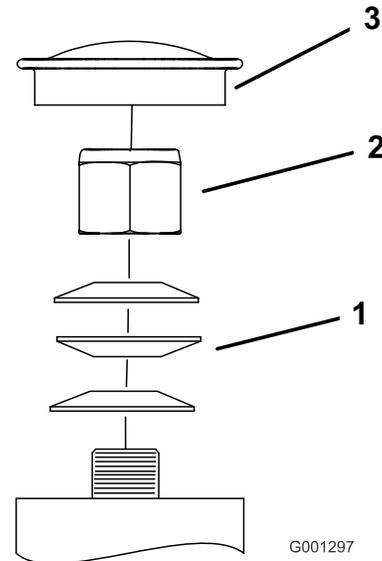

Figure 62
3. Remove the dust cap from caster and tighten lock nut (Figure 62).
4. Tighten the locknut until the spring washers are flat and then back off a 1/4 turn to properly set the pre-load on the bearings (Figure 62).
**Important:** Make sure the spring washers are installed correctly as shown in Figure 62.
5. Install the dust cap (Figure 62).